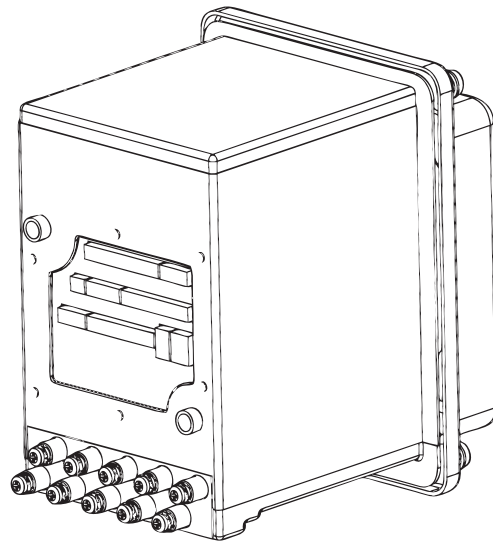

Figure 11.8: Switchboard Meter Back Showing Connectors
2. Slide the meter into the case and secure it by sliding the chassis levers until they snap into place. Connectors for the following are located on the back of the meter. The connectors automatically plug into the available connectors on the mounting board (see Figure 11.8).
The meter snaps into place and is secured with levers and screws. All input and output connections are made automatically as the meter is installed. (Refer to Section 11.4 and Figure 11.8.)